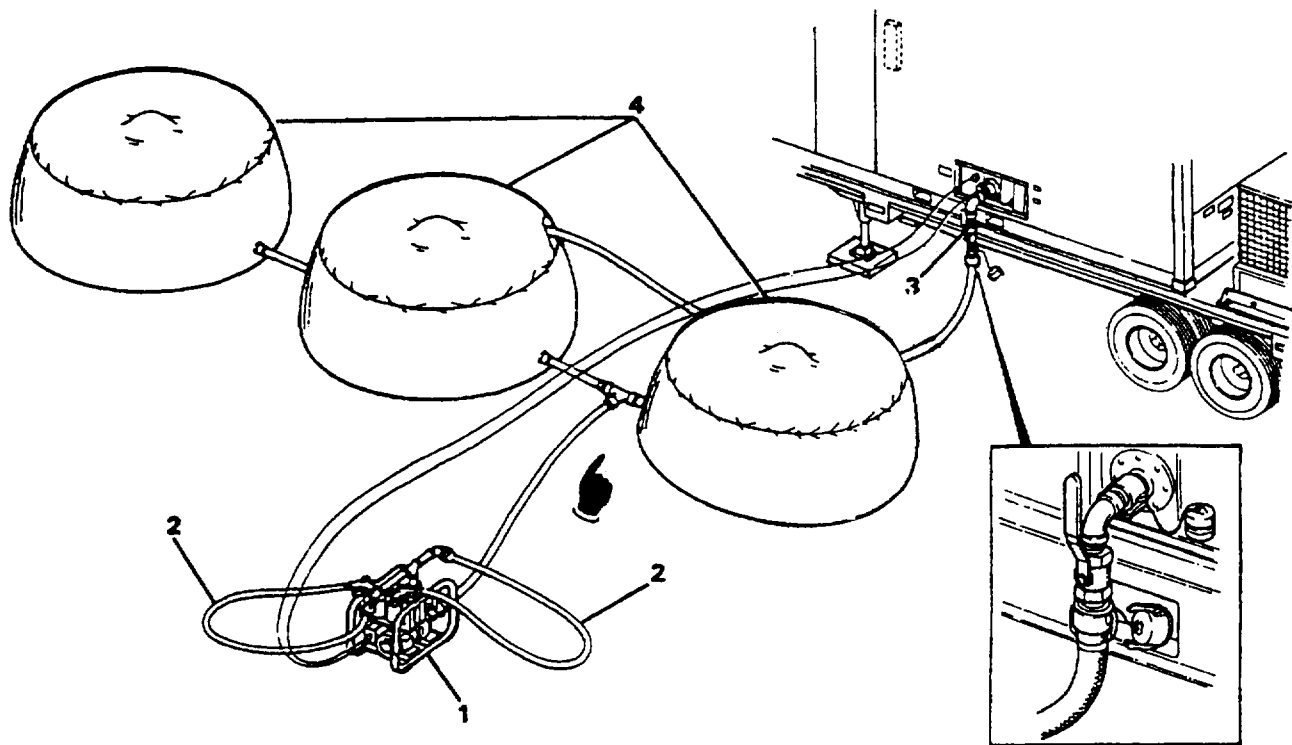

Figure 1-5. Major Components of the Potable Water Distribution System
- (n) *Air System Low Pressure Regulator* (16). Regulator valve controls air pressure to automatic valves and other air system components.
- (o) *Main Control Panel* (17).
- (p) *NBC Filter* (18). Used during NBC decontamination operations. Removes trace nuclear, biological, or chemical contaminants from the feed water remaining after purification by the filtration and the RO process.
- (q) *Heaters*. Diesel fired heaters (19) provide heat inside of van, an electric heater (20) provides heat to the high pressure pump assembly mounted outside the van.
- (r) *RO Vessels* (21). Contain the RO elements which reduce the TDS content of the feed water.
- (s) *Carbon Monoxide Monitor* (22). A self-contained device which indicates presence of harmful amounts of carbon monoxide by an audio alarm and visual display.
- (t) *Air Compressor* (23). Provides air for aiding the backwash of the media filter, for operating automatic valves and utility service air.
- (u) *High Pressure Pump* (24). Pressurizes the feed water after it is filtered for the reverse osmosis process.
- c. *Potable Water Distribution System (Figure 1-5)*. This system stores and dispenses the potable water produced by the ROWPU.